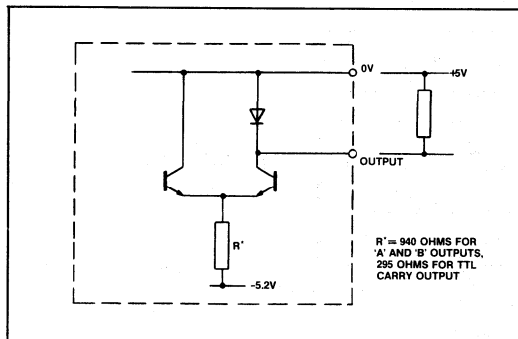
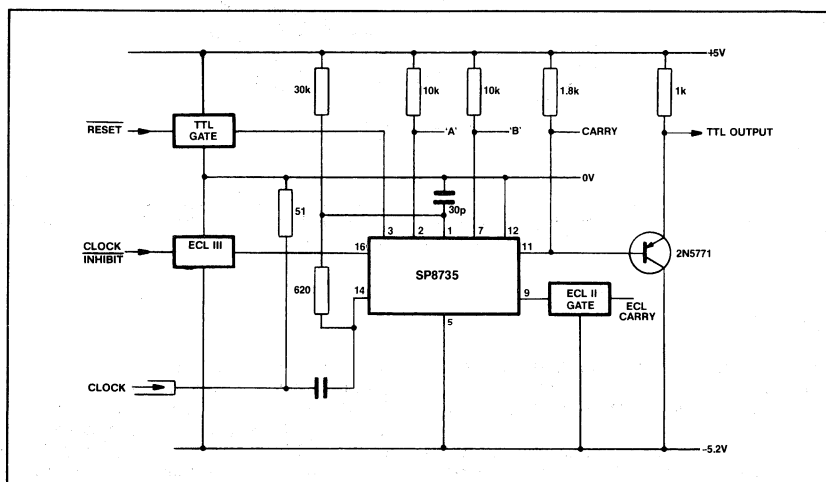

Fig.6 TTL output circuit
Fig.9 Typical application showing interfacing
6. The 'A', 'B' and TTL Carry outputs are current sources and require the addition of 10k (pins 2 and 7) and 5k (pin 11) to +5V for TTL compatibility. See Fig. 6. This gives a fan-out = 1. The fan-out can be increased by buffering the output with a PNP emitter follower, see Fig. 9.